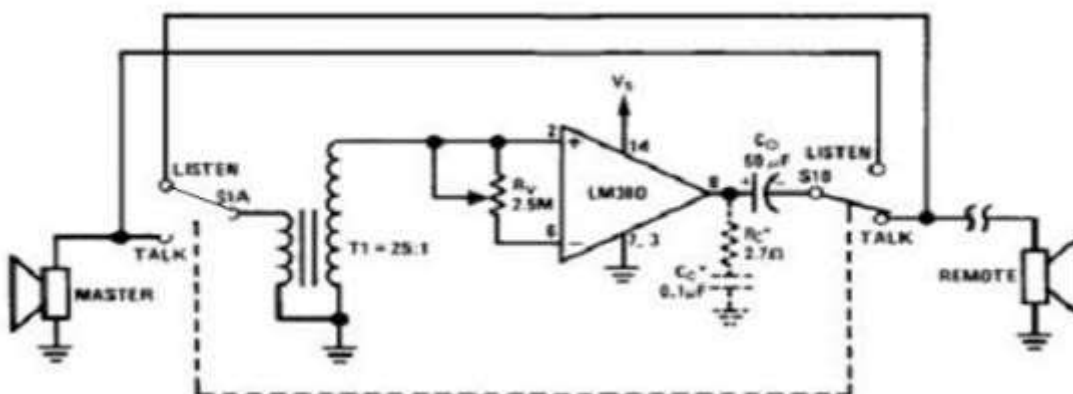

Figure 5.11.9 Intercom system using LM380 as Listen mode
- Figure 5.11.9. shown below is the Intercom system using LM380 as Listen mode. When the switch is in Listen position, the remote speaker acts as a microphone.